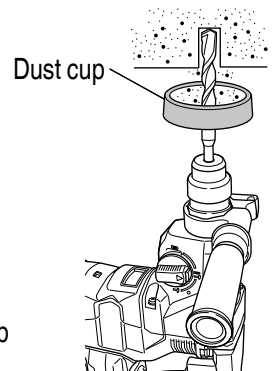
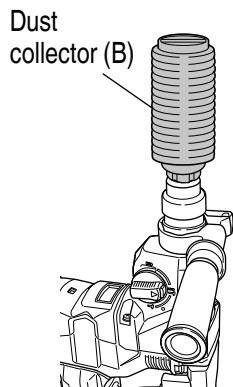

Fig. 13
Fig. 14
4. Installation of dust cup or dust collector (B) (Optional accessories) (**Fig. 13, Fig. 14**)
Use the dust cup by attaching to the drill bit as shown in **Fig. 13**.
- Installing dust collector (B)
When using dust collector (B), insert dust collector (B) from the tip of the bit by aligning it to the groove on the grip. (**Fig. 14**).